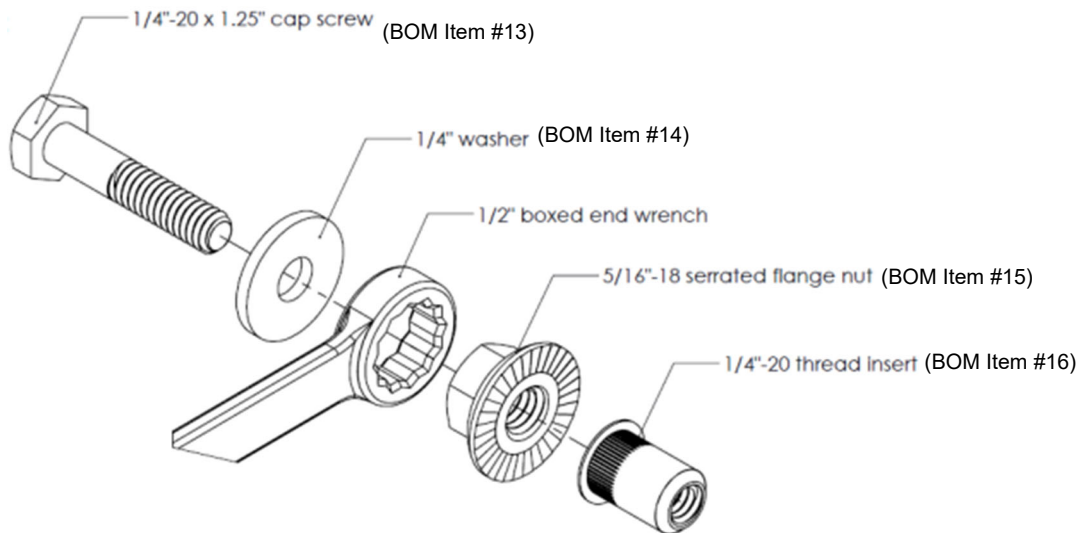
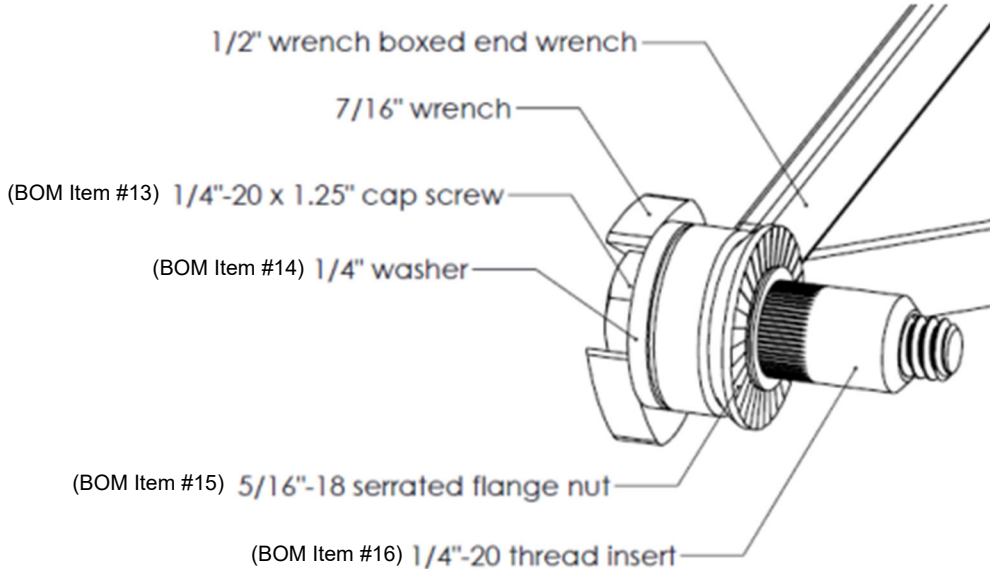

Figure 1
Figure 2
- J. If you have access to a nutsert gun or pliers, that may be preferable to set the provided nutserts. Otherwise, using the items shown in Figure 1 and a 7/16" wrench, arrange them as shown and turn the 1/4"-20 screw by hand until it is snug (Figure 2). Note that the screw will pass through the serrated flange nut without engaging the threads. The serrations on the flange nut prevent the nutsert from rotating while setting it.
- K.** Insert the 1/4"-20 threaded insert into the bottom hole as shown in figures 2 and 3. While keeping the threaded insert flange firm and parallel against the frame, tighten the screw using the 7/16" wrench or socket. Hold the 1/2" box-end wrench stationary and turn the 7/16" wrench two full rotations to set the threaded insert. Tightening in 1/4-turn increments tends to work well.
- M.** Assemble the 5/16"-18 hex screw (BOM item #9), 5/16" flat washer (BOM item #10), a 9/16" box-end wrench, 3/8" serrated flange nut (BOM item #11) and hex threaded insert the same way shown in figures 1 and 2.
- N.** Insert the 5/16"-18 hex threaded insert into the top hole as shown in figures 2 and 3. While keeping the hex threaded insert (BOM item #12) flange firm and parallel against the frame, tighten the screw (BOM item #9) using a 1/2" box-end wrench or socket. Turn it two rotations to set the hex threaded insert. Tightening in 1/4-turn increments tends to work well.